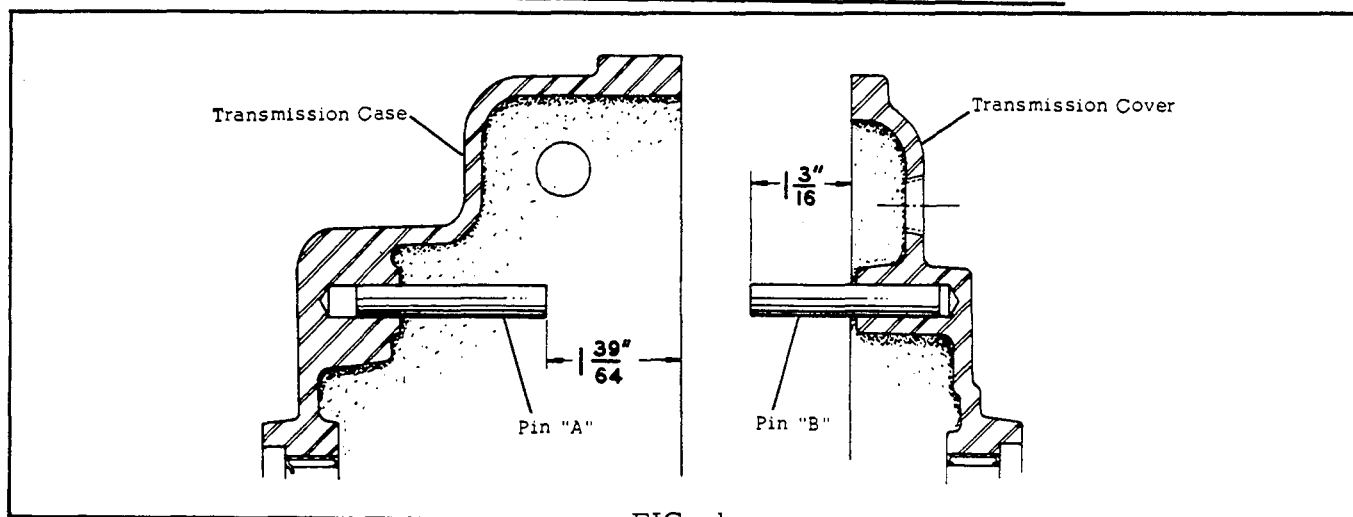

FIG. 1
1. Before beginning assembly, check the 2 roll pins that limit the movement of the shift stem. See Fig. 1. It is imperative that both of these pins be checked for proper height and adjusted if necessary. Note the dimensions shown: pin "A" in the transmission case is set to give a dimension of $1-39/64$ " from the end of the pin to the face of transmission case, and pin "B" in the transmission cover is set to give a dimension of $1-3/16$ " from the end of the pin to the face of cover. When replacing pins, the groove of the pin should face the top of the transmission case.